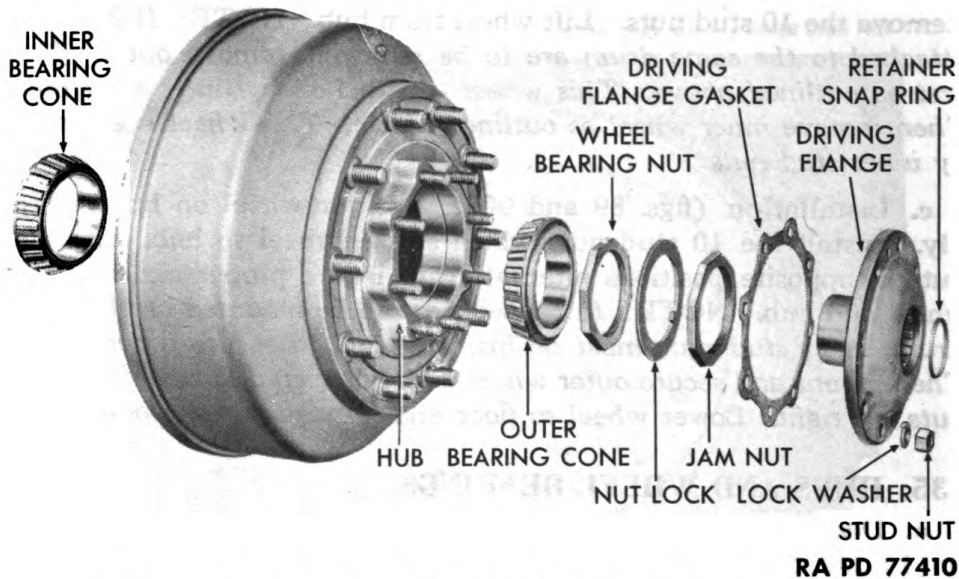

Figure 91 — Front Hub and Bearings Disassembled
(1) **DESCRIPTION** (figs. 91 and 92). Hubs and wheel bearings are located on each end of axle housing, front and rear. The two bearing cups and cones are fitted snugly to axle shaft. The hub assembly is installed on these bearings and secured by a bearing nut. The bearings are packed with grease. The grease is prevented from passing into hub brake drum by a felt oil seal and two retainer washers located between inner bearing cone and brake housing assembly.
(2) TABULATED DATA:
b. **Adjustment** (figs. 91 and 92). Block wheels to prevent vehicle from moving. Use suitable lifting device to raise wheel clear of floor. Remove retainer snap ring (front hub only). Remove axle shaft driving flange (axle shaft on rear axle) and gasket by removing the eight (12 on rear axle) stud nuts and lock washers which secure flange to hub assembly. Remove wheel bearing jam nut and nut lock (called jam nut washer on rear axle). While tightening wheel bearing nut rotate wheel in both directions until wheel binds. Back off nut about $\frac{1}{4}$ turn to allow wheel to rotate freely without excessive play. Test for excessive play by lifting with a bar or other suitable lifting device. Tighten nut enough to eliminate play but not enough to cause binding. Install nut lock (jam nut washer and jam nut). Recheck wheel adjustment. Install driving flange (or axle shaft`
c. **Removal** (figs. 91 and 92). Remove wheel (par. 134 b). Pry retainer snap ring (front wheel only) from center of driving flange. Remove axle driving flange (axle shaft on rear axle), jam nut, and
d. Installation (figs. 91 and 92). Position brake drum on hub and install the 10 stud nuts which attach drum to hub. Install new felt oil seal and two retainer washers. Soak felt thoroughly with engine lubricant. Apply new lubricant to wheel inner bearing cone and install. Install hub. Install outer bearing cone. Install bearing nut. Complete the installation as described in (par. 135 b). **NOTE:** *Install rear axle driving flange and axle shaft as a unit as follows: Release puller screws if they were used in removal. Position flange and shaft in hub assembly and secure with the 12 nuts, lock washers, and the 3 dowel washers and dowels. Wire rear axle puller screws. Install wheels (par. 136 d) and release brake.*